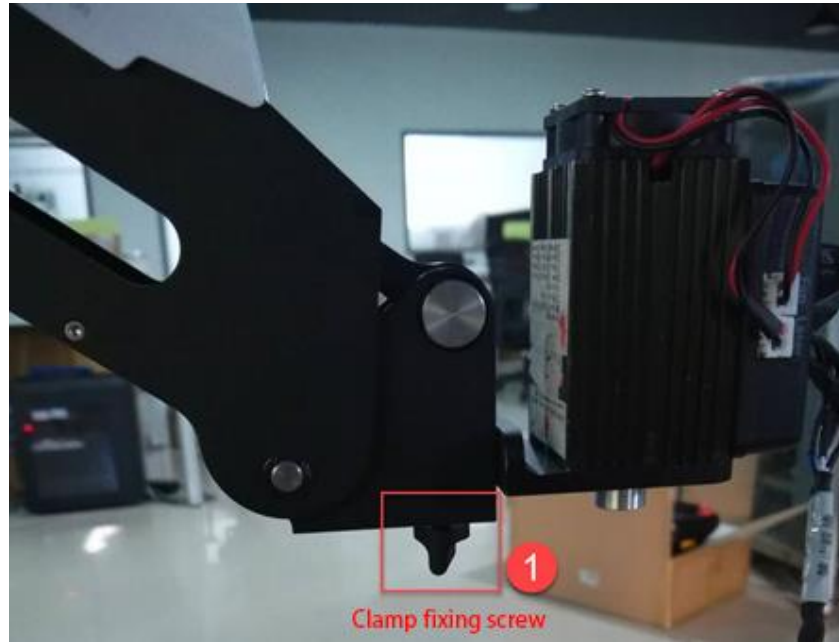

Figure 5.51 Fasten the laser with clamp fixing screw
Step 1 Fasten the laser kit to the Dobot Magician's end with clamp fixing screw, as shown in Figure 5.51.